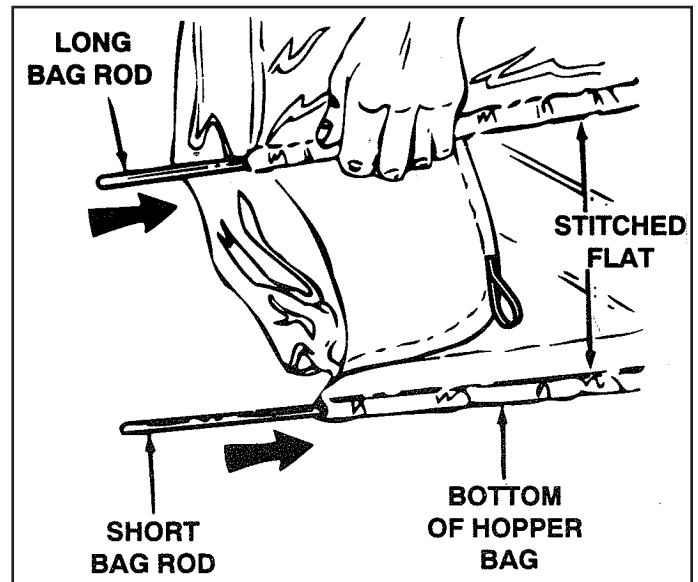

FIGURE 5
7. Slide the long bag rod (28-1/2" long) through the stitched bag flap on the top of the hopper bag as shown in figure 5.
8. Slide the short bag rod (25-1/2" long) through the stitched bag flap on the bottom of the hopper bag as shown in figure 5.